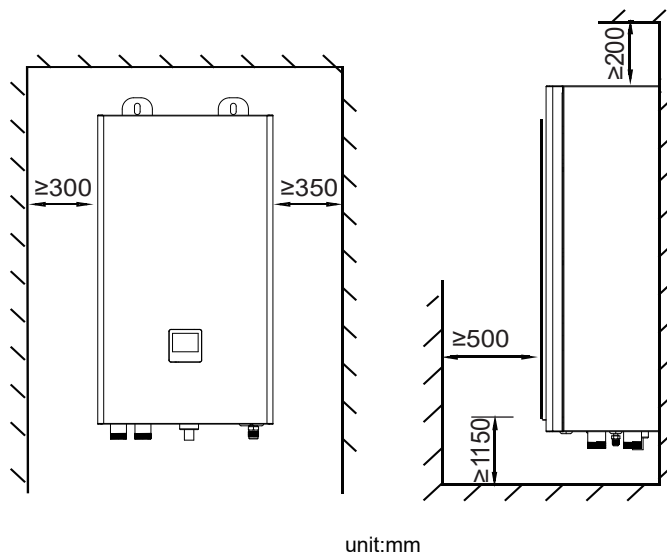

Fig. 4-4
- The space around the unit is adequate for serving, see figure 4-4.